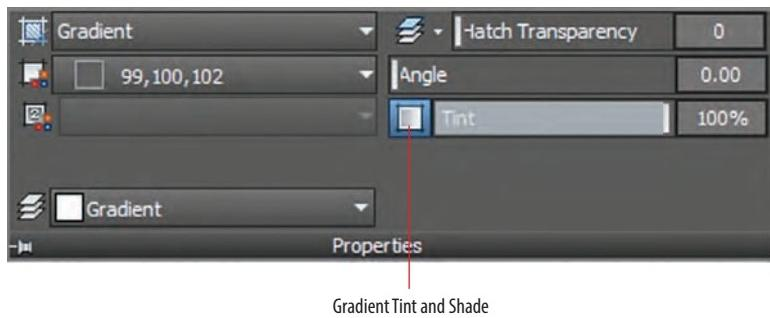

FIGURE 8.20 Configuring a gradient hatch
2. Scroll down in the Pattern panel and select the GR\_HEMISP gradient. In the Properties panel select 99, 100, 102 (see Figure 8.20) in the Gradient Color 1 drop-down. In the right column, click the Gradient Tint and Shade button to create a one-color gradient. Expand the Properties panel and select Gradient in the Hatch Layer Override drop-down. Press Esc.